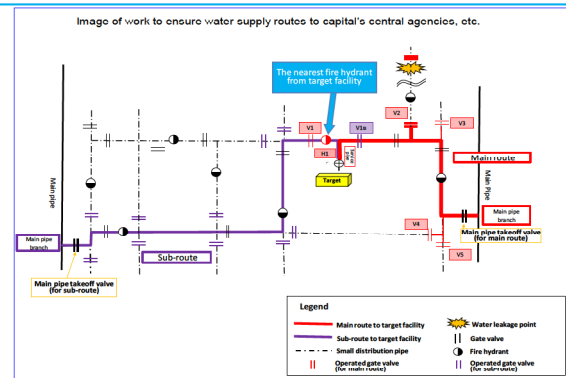

Figure 2 Conceptual diagram of how to ensure water supply routes to the capital's central agencies, etc.
1. Procedure to ensure water supply routes (Figure 2)